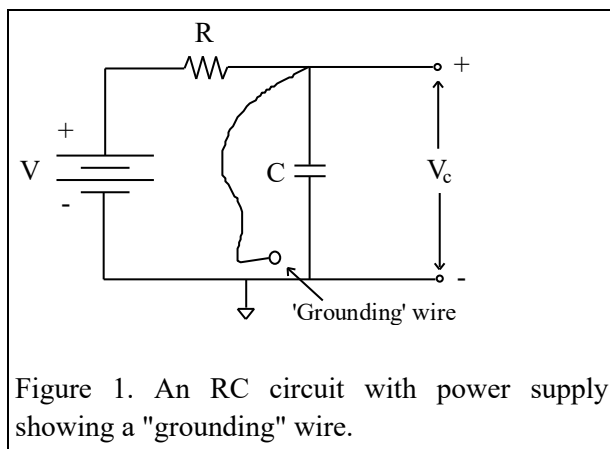

Figure 1. An RC circuit with power supply showing a "grounding" wire.
When a current I exists in a long straight wire, a magnetic field B is generated around the wire. The field lines are concentric circles surrounding the wire, as shown in Figure 1.
In Figure 1, the current I is shown coming out of the page toward you. The magnitude of the magnetic field (B) as a function of I and the distance (r) away from the wire is given by:
An RC circuit is shown in Figure 1. The grounding wire shown in the figure is equivalent to having a switch in the circuit. When the wire
1. Connect the resistor and the 8 μF capacitor as shown in Figure 1. Set the power supply voltage to 10 volts D.C.